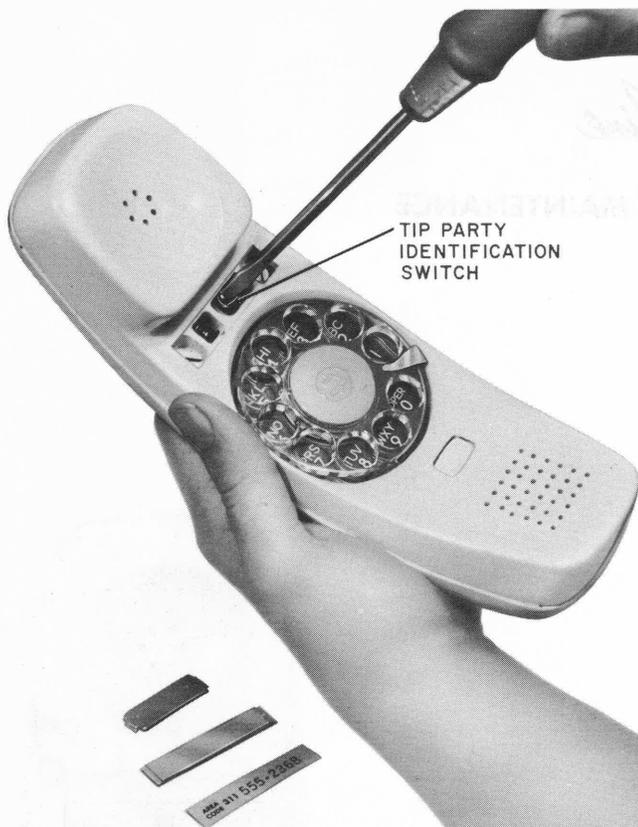

Fig. 2 — Location of Tip Party Identification Switch
2.02 The 220A Hand Telephone Set is shipped from the factory with the tip party identification switch in an open position (Fig. 2).